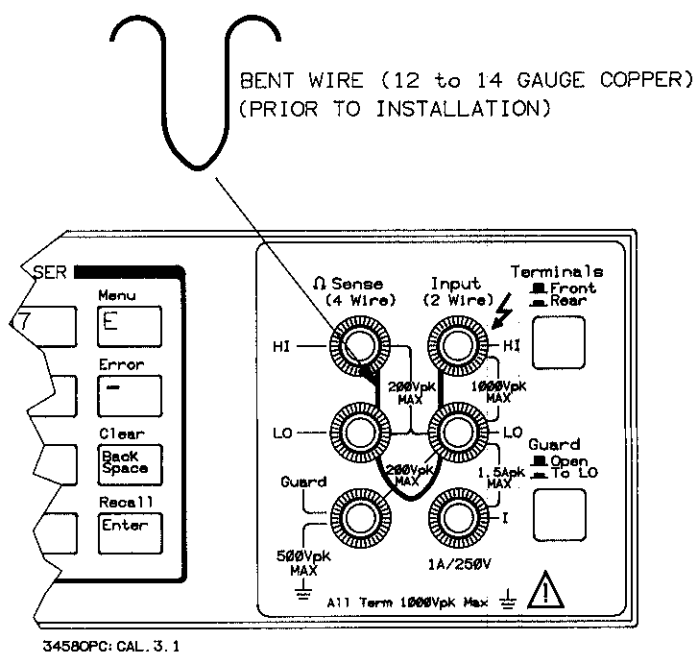

Figure 3-1. 4-Terminal Short.
1. Connect a low thermal short across the front panel **HI** and **LO** input terminals of the DMM under test (see Figure 3-1).
- A low-thermal 4-terminal short for the offset adjustments (this is typically a bent piece of copper wire as shown in Figure 3-1).
6. Allow the multimeter to warm up for 4 hours from the time power was applied. (At this point, you can connect the 4-terminal short to the front terminals as shown in Figure 3-1 to prepare for the Front Terminal Offset Adjustment.)
Equipment required: A low-thermal short made of 12 or 14 gauge solid copper wire as shown in Figure 3-1.
2. Connect a 4-terminal short across the front panel **HI** and **LO** Input terminals and the **HI** and **LO** Ω Sense terminals as shown in Figure 3-1.